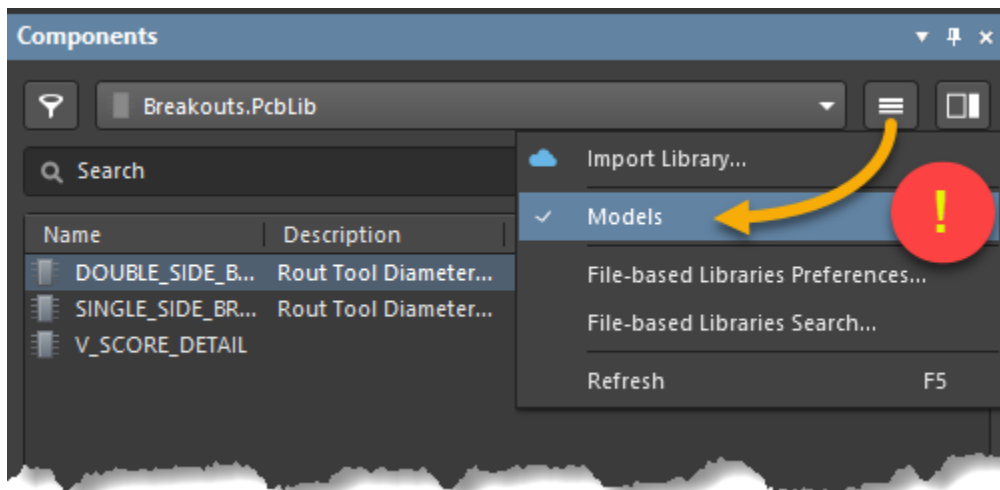

Figure 20. Enable the visibility of Model libraries
- 39. Using the *triple line* icon to ensure that **Models** is enabled as shown in Figure 20. This will allow us to select the *Breakouts.PcbLib*.